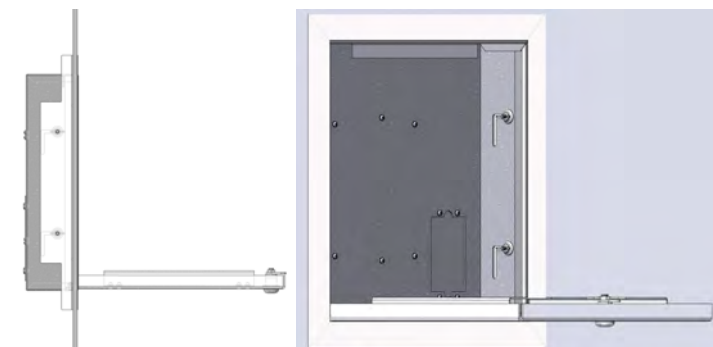

Figure 6 - Locked Position
Step 7 – Once the enclosure is flush with the wall or ceiling, slide the wall bridges in the L-slot, and draw the bridges against the wall. Tighten the wing nuts one side at a time (Figure 6). At this point, the enclosure is ready to be secured into the wall. Additional material may be needed.